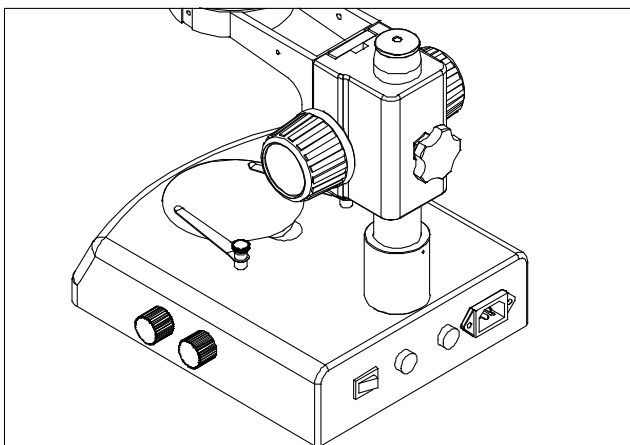

Fig. 2
- 2.2) The suitable position of tightness can make the adjustment more comfortable and prevent the focusing bracket from slipping down by its weight during the observation. (Fig. 2)